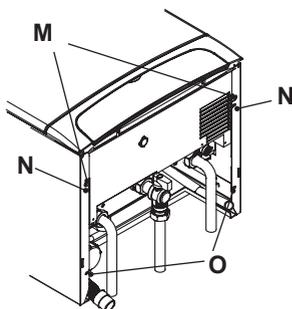

Fig. 6.10
- Remove the screws M and N (Fig. 6.10).